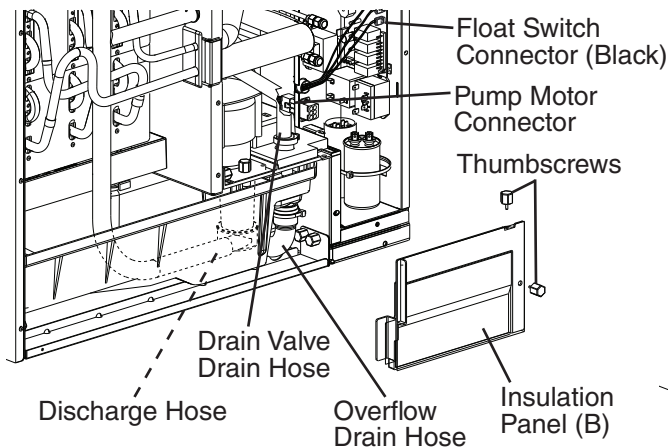

Fig. 19
- 7) Remove the front panel, then remove insulation panel (A) (the large insulation panel in front of the evaporator) by lifting up the panel slightly and pulling it towards you.
- a. Remove the control box cover. Remove the 2 thumbscrews securing insulation panel (B), then remove insulation panel (B). See Fig. 19.